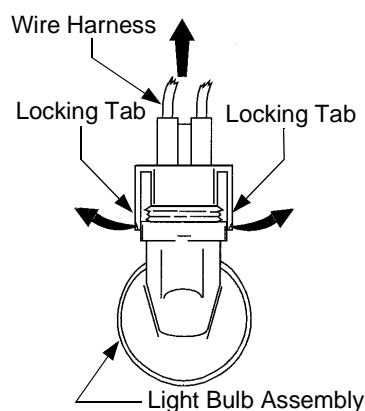

Figure 18
- Pull both locking tabs away from light bulb and pull wire harness away. See Figure 18.